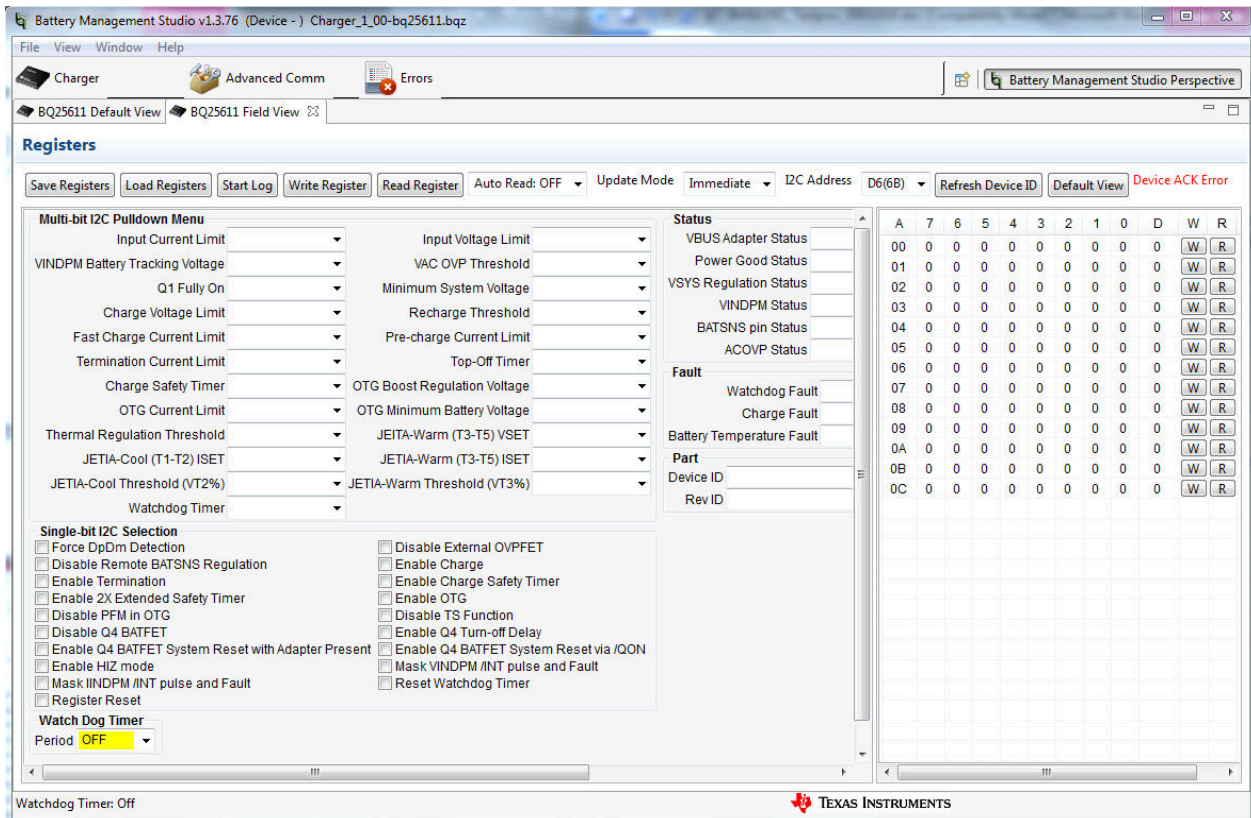

Figure 2-4. Main Window of BQ2561x EVM Software
3. Choose **Field View**, on the window that appears, and the main window of the BQ2561X EVM software will appear, as shown in Figure 2-4.
2. In the Field View (see Figure 2-4), make the following changes as necessary: